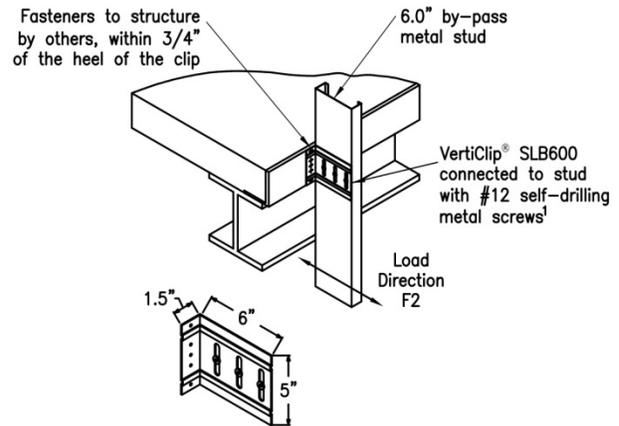

Figure 2 – VertiClip® SLB600
**3.1.3 VertiClip® SLB:** The VertiClip® SLB600 is an L-shaped angle that connects 6 inch deep (152 mm) exterior curtain wall steel studs to a concrete floor slab's pour stop angle while allowing a maximum of 2 inches (51 mm) of vertical movement between exterior wall elements and the primary structure. The minimum base-metal thickness of the clip is 0.0677 inch (1.7 mm). The long leg of the connector, which is fastened to the curtain wall stud, has three vertical slots, each 3/8 inch (9.5 mm) wide by 23/8 inches (60.3 mm) long. Refer to Figure 2 for overall dimensions of the VertiClip SLB600 connector and a typical installation detail.